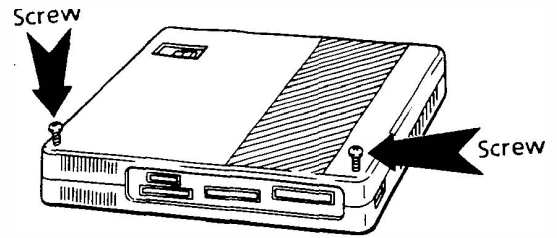

Figure 200-11 KSU Cover Screws
- Remove two screws as shown in Figure 200-11 KSU Cover Screws.